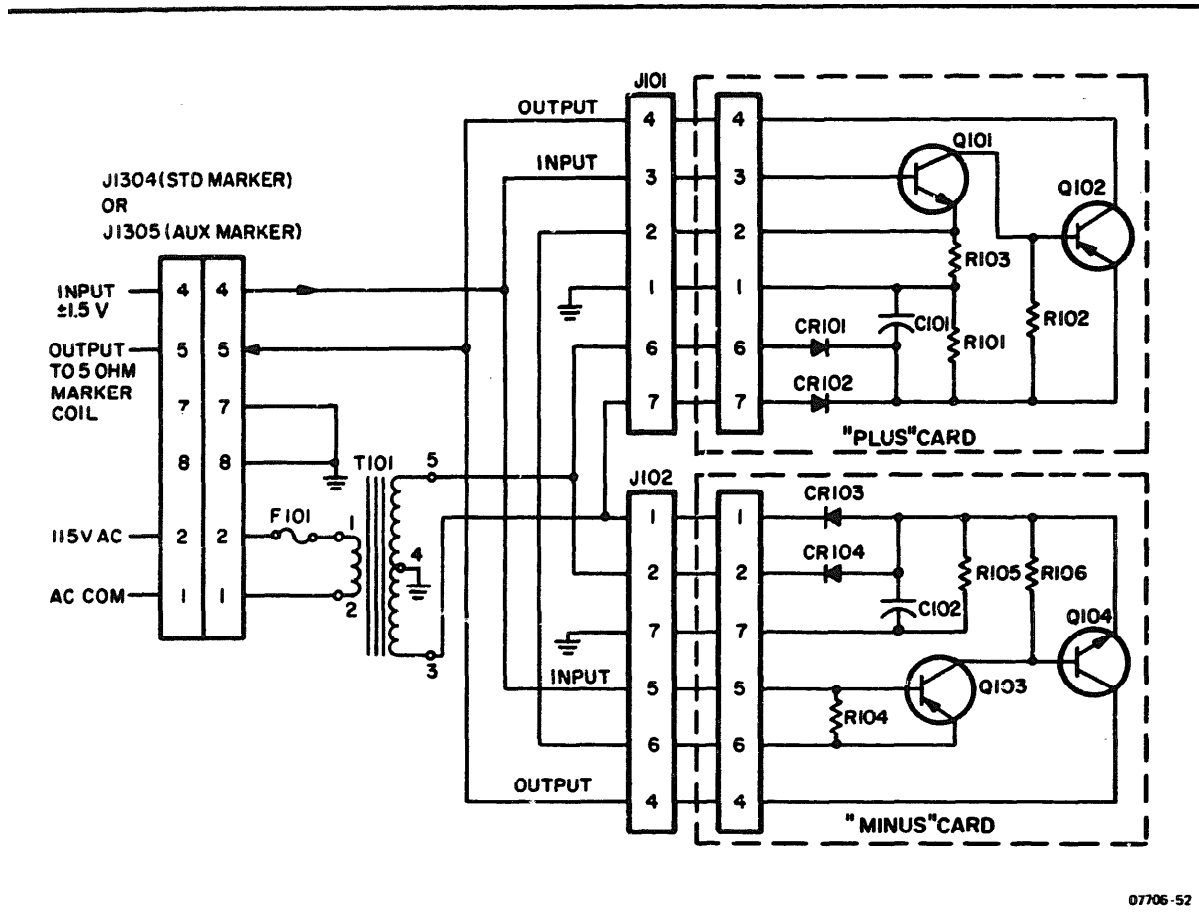

Figure 4-26. + DC Marker Driver Amplifier 14040A
b. The standard transformer can be replaced by a "±DC" transistor amplifier, Model 14040A (see Figure 4-26). This provides an up-scale marking deflection with +1-1/2 volts input voltage, a down-scale marking deflection with a -1-1/2 volts input
4-109 The \pm DC Marker Driver Amplifier Model 14040A is shown in Figure 4-26. The amplifier plugs into J1304 (standard marker) or J1305 (auxiliary marker). With no input signal, there is no output current supplied to the marker coil by output transistor Q102 or Q104. A positive input signal produces a change in the collector current through Q101, and allows Q102 to deliver an output current to the marker coil which gives an upscale (to the left) marker deflection which continues as long as the signal is applied. The common circuit element R103 in the "plus"